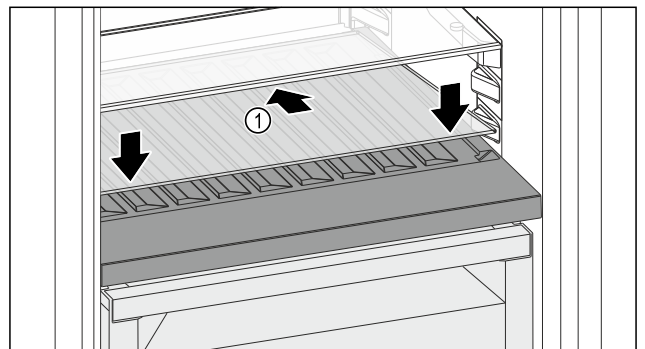

Fig. 211
- Place the glass shelf Fig. 211 (1) at an angle, sloping it downwards and backwards.
- Lower the glass shelf Fig. 211 (1) at the front.